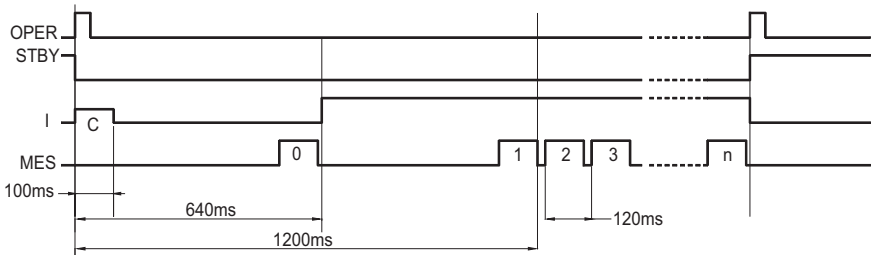

Figure 4-5
- All subsequent measurements comprise only a  $V_n$  measurement as  $V_0$  remains in memory. The timing sequence for measurement is shown in Figure 4-5.